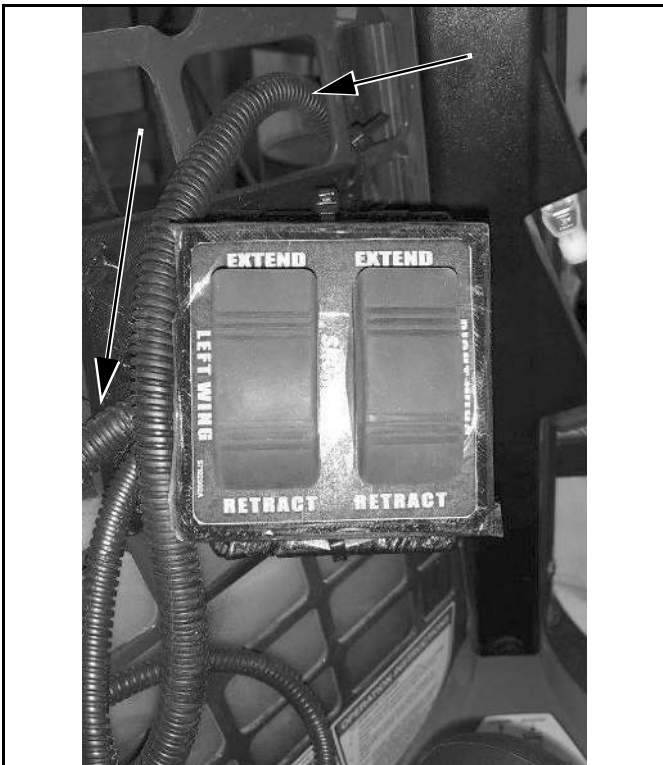

Figure 2-18
2. Route harness through opening in side window and connect to back of Plow Control Box. (See Figure 2-18) (26R Skid Steer Control Shown)